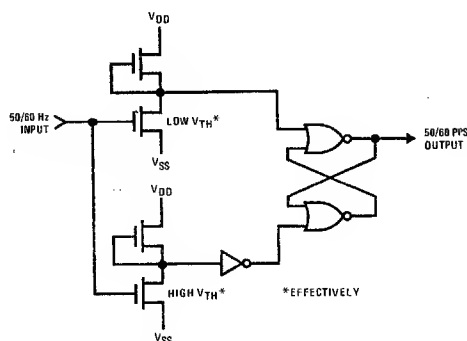

FIGURE 3. 50/60 Hz Input Shaping Circuits
**50 or 60 Hz Input (pin 8):** A shaping circuit (*Figure 3*) is provided to square the 50 or 60 Hz input. This circuit allows use of a filtered sinewave input. The circuit is a Schmitt Trigger that is designed to provide about 6V of hysteresis. A simple RC filter, such as shown in *Figure 7*, should be used to remove possible line-voltage transients that could either cause the clock to gain time or damage the device. The input should swing between  $V_{SS}$  and  $V_{DD}$ . The shaper output drives a counter chain which performs the timekeeping function.